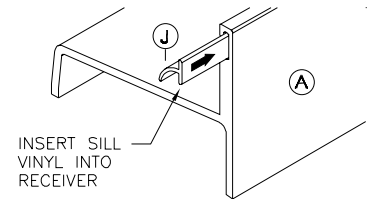

figure 2
2. Trim the Vinyl Seal (J) to an inch and one eighth (1-1/8") less than the base opening. Slide Vinyl Seal (J) into the Sill's receiver as shown in figure 2 and center it on the Sill.